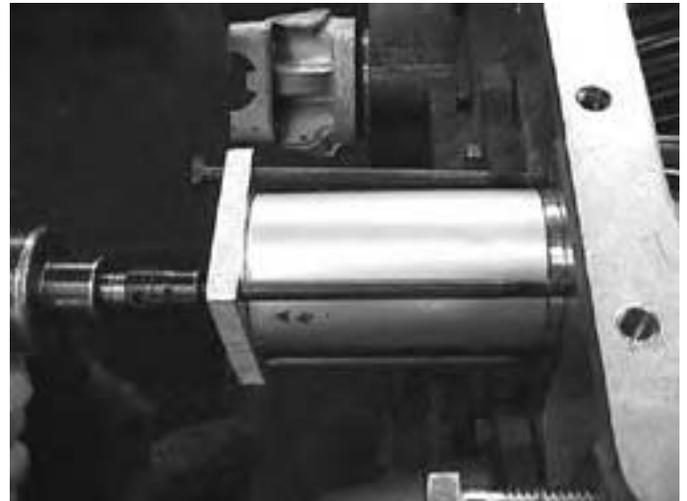

Fig. 4
5. Remove the high-low shift cylinder cap bolts. Then remove the cylinder cap and cylinder sleeve by sliding them off the piston. See Fig. 4.